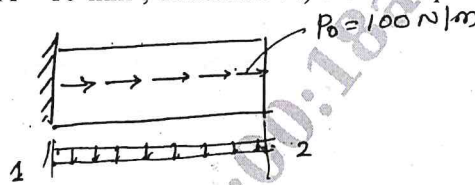

Fig Q4(a)
- 4 a. Figure Q4(a) shows a bar subjected to uniformly distributed load 'P₀' as shown Fig Q4 (a). Taking E = 70GPa, Area A = 10⁴mm², determine : i) Nodal displacement ii) Stresses